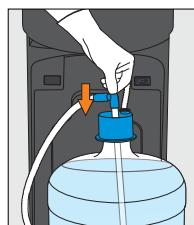

Figure 20
8. Push probe down until the tube hits the bottom of bottle (Figure 20)